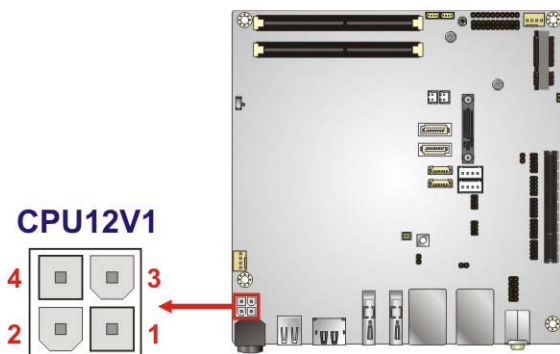

Figure 3-3: DC-IN Power Connector Location
- CN Location:** See **Figure 3-3**